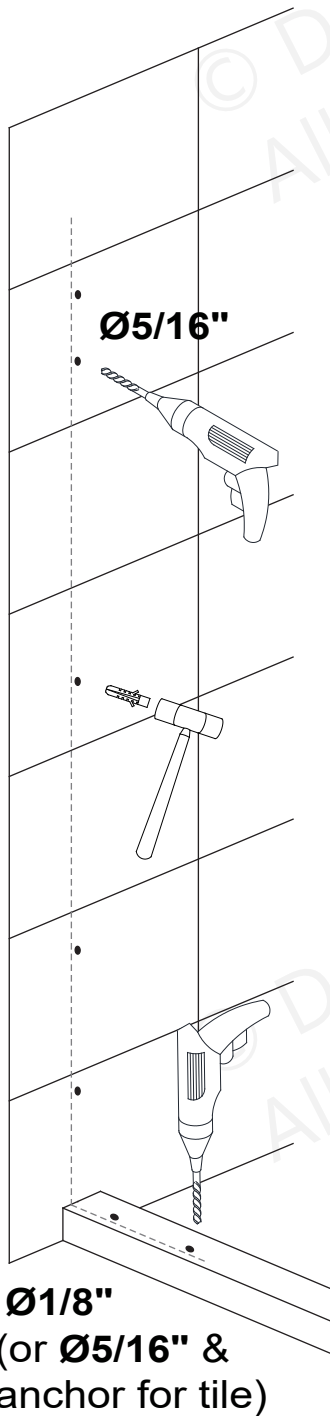

Fig 5
- Drill  $\text{\O}5/16''$  holes and install anchors for installation into a tile threshold. (Fig 5)